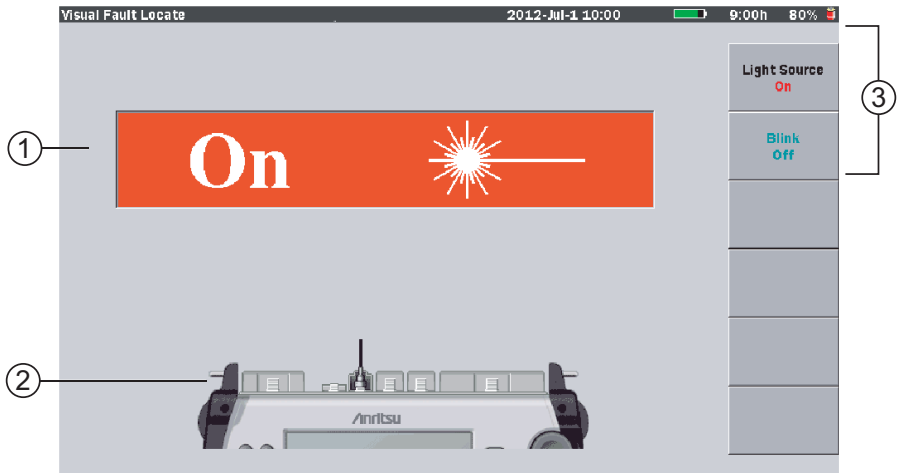

Figure 10-2: Visual Fault Locator On/Off indicator
Press the Light Source Off softkey to start the Visual Fault Locator. The red legend on the softkey changes to “On” and the Visual Fault Locator’s laser starts firing (as indicated by the Visual Fault Locator On/Off indicator (see item 1 in Figure 10-2 on page 10-2).
2. Connect the optical fiber to be measured to the VLD port, as shown by the Port Connection indicator (see item 2 in Figure 10-2 on page 10-2).